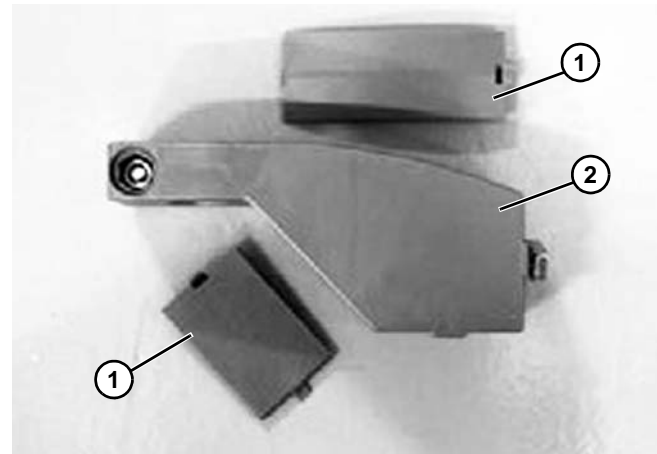

Figure 84
1. Open the upper and lower caps (Figure 84, item 1) on FGRB - 40 guide rail bracket (Figure 84, item 2), and install T-bolt.